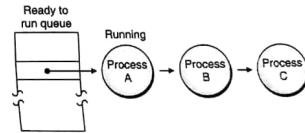

Fig. 13.3.2 : FIFO scheduling
- Fig. 13.3.2 shows the movement of the tasks in the ready to run and running state.